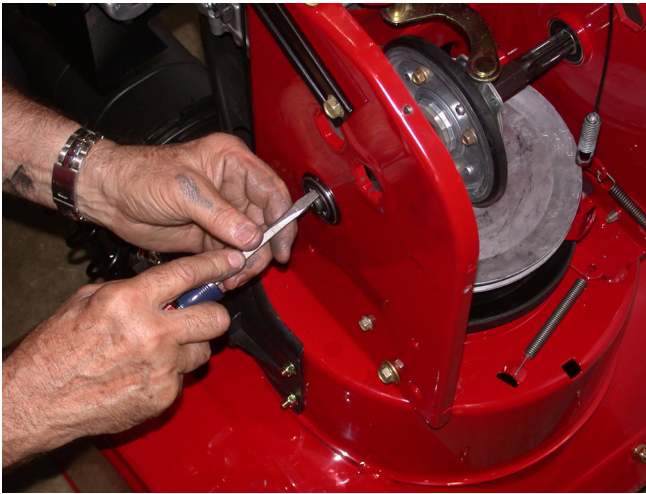

Figure 10.2
- 10.2. Pry off the E-ring off the left side of unit holding the Drive shaft assembly in. See Figure 10.2.